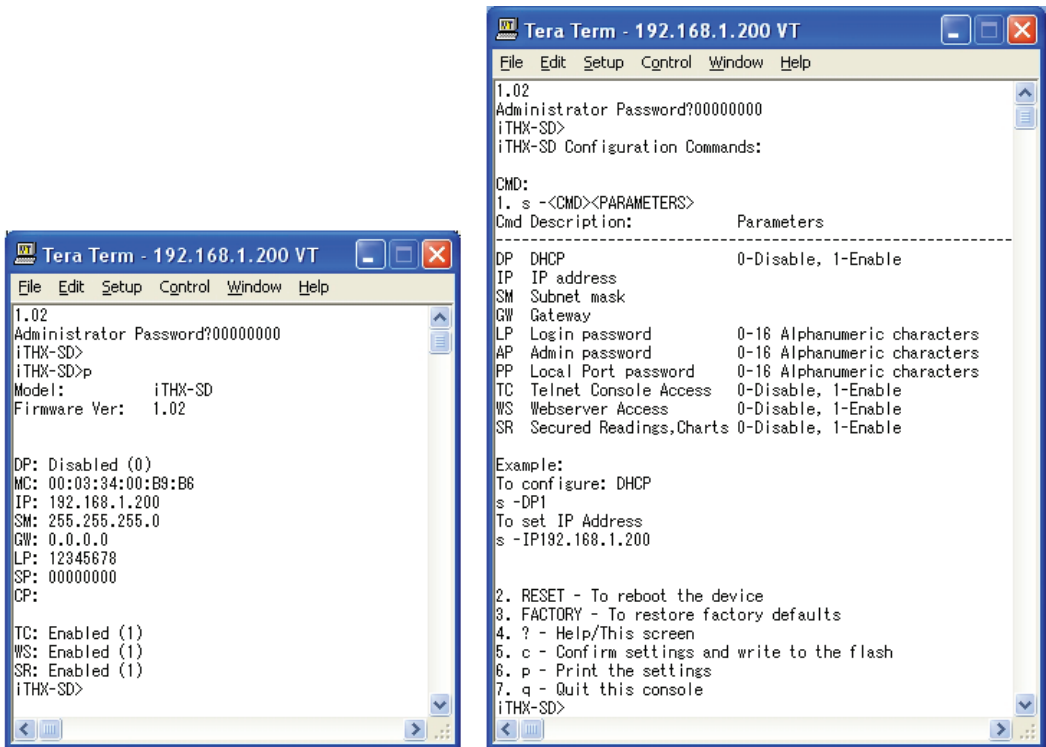

Figure 4.37
- p** displays the current settings (**Figure 4.37**)